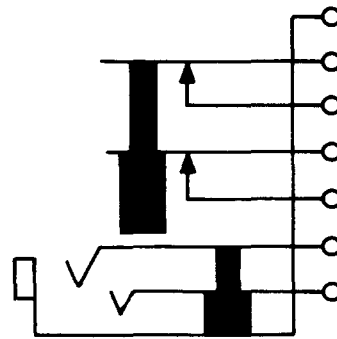

Fig. 11—293A or AM Jack
**2.11 293A and AM:** These single-mounted jacks (Fig. 11) are used with 150, 213, and 310 plugs.